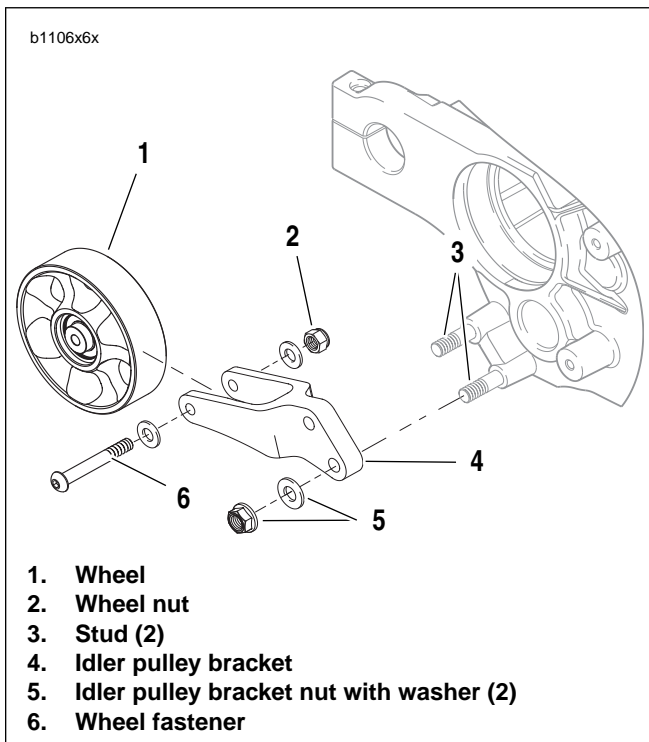

Figure 6-99. Idler Pulley Assembly
- See Figure 6-99. Remove both bracket nuts with washers (5) attaching idler pulley bracket (4) to studs (3).
- Inspect pulley by spinning wheel (1) and checking for excessive wheel bearing wear. See INSPECTION/1.10 DRIVE BELT.
- If pulley wheel needs replacement, remove fastener (6) and nut (2) from idler pulley bracket (4) and discard. Replace with **new** pulley wheel (1).